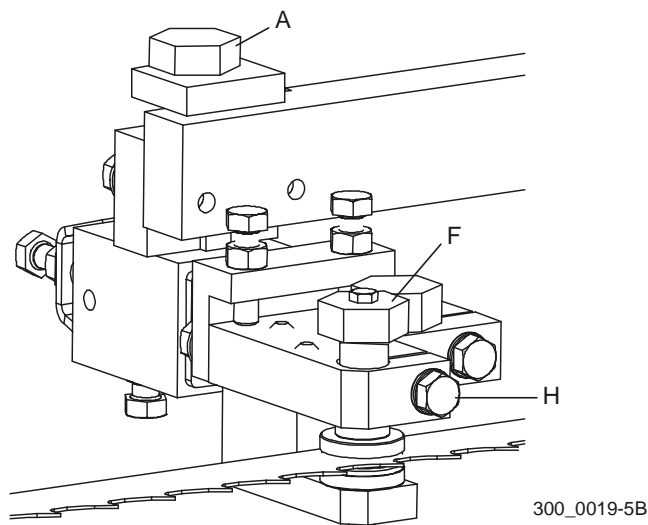

FIG. 5-35
See Figure 5-35. Turn bolt (F) counterclockwise to raise the top guide disk off the blade. Turn bolt (A) counterclockwise to lower the bottom guide disk.